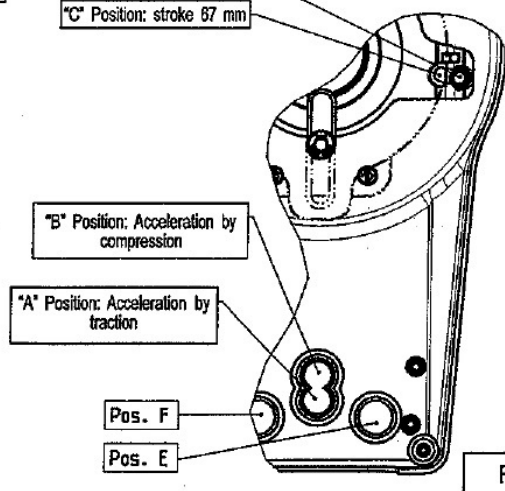

Fig. 7
1. Insert the reverse stud (1) in the control cable rod eyelet (Fig.6) and fix it with the stop ring (2). The cable shall be positioned in the "E" or "F" seat (Fig.3), according to the direction of the installation of the box (see Fig.7).
2. Insert the reverser stud (1) in the slot (Fig.6) and place it in position "C" (in ward) or "D" (outward) depending on the necessary stroke (Fig.7). Fasten the stud with one M4x18 screw (3).